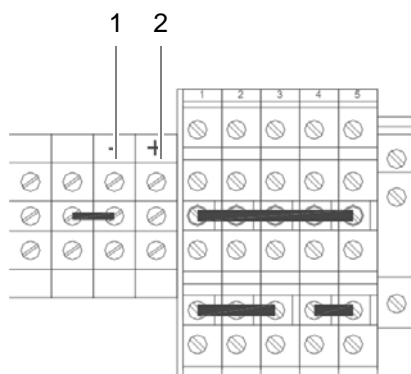

Figure 5.16 Voltage supply connector
1. Connect the positive voltage supply cable with the terminal (2) identified by "+", refer to Figure 5.16.
2. Connect the negative voltage supply cable with the terminal (1) identified by "-", refer to Figure 5.16.